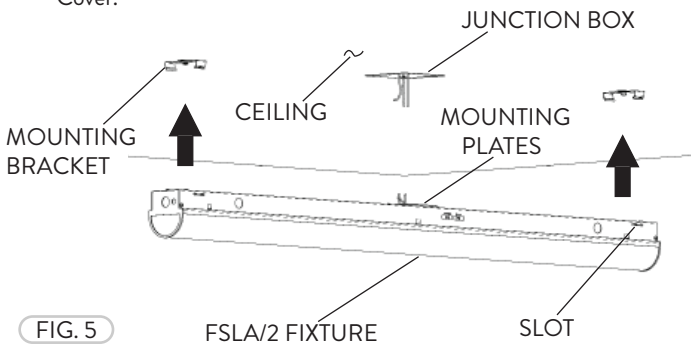

FIG. 5
- 3 Insert the FSLA/2 fixture Slots by pressing into the each of the Brackets (Fig. 5). The Mounting Plates will be the Junction Box Cover.